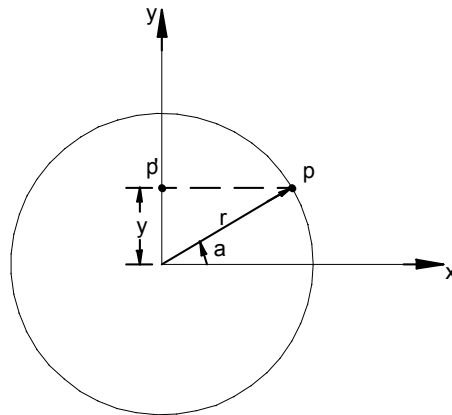

Fig.6.11
**(d) Simple Harmonic Motion:** In fig.6.11, the motion executed by point P1, which is the projection of point P on the vertical diameter is called simple harmonic motion. Here, P moves with uniform angular velocity  $\check{\omega}_p$  along a circle of radius r (r = s/2).